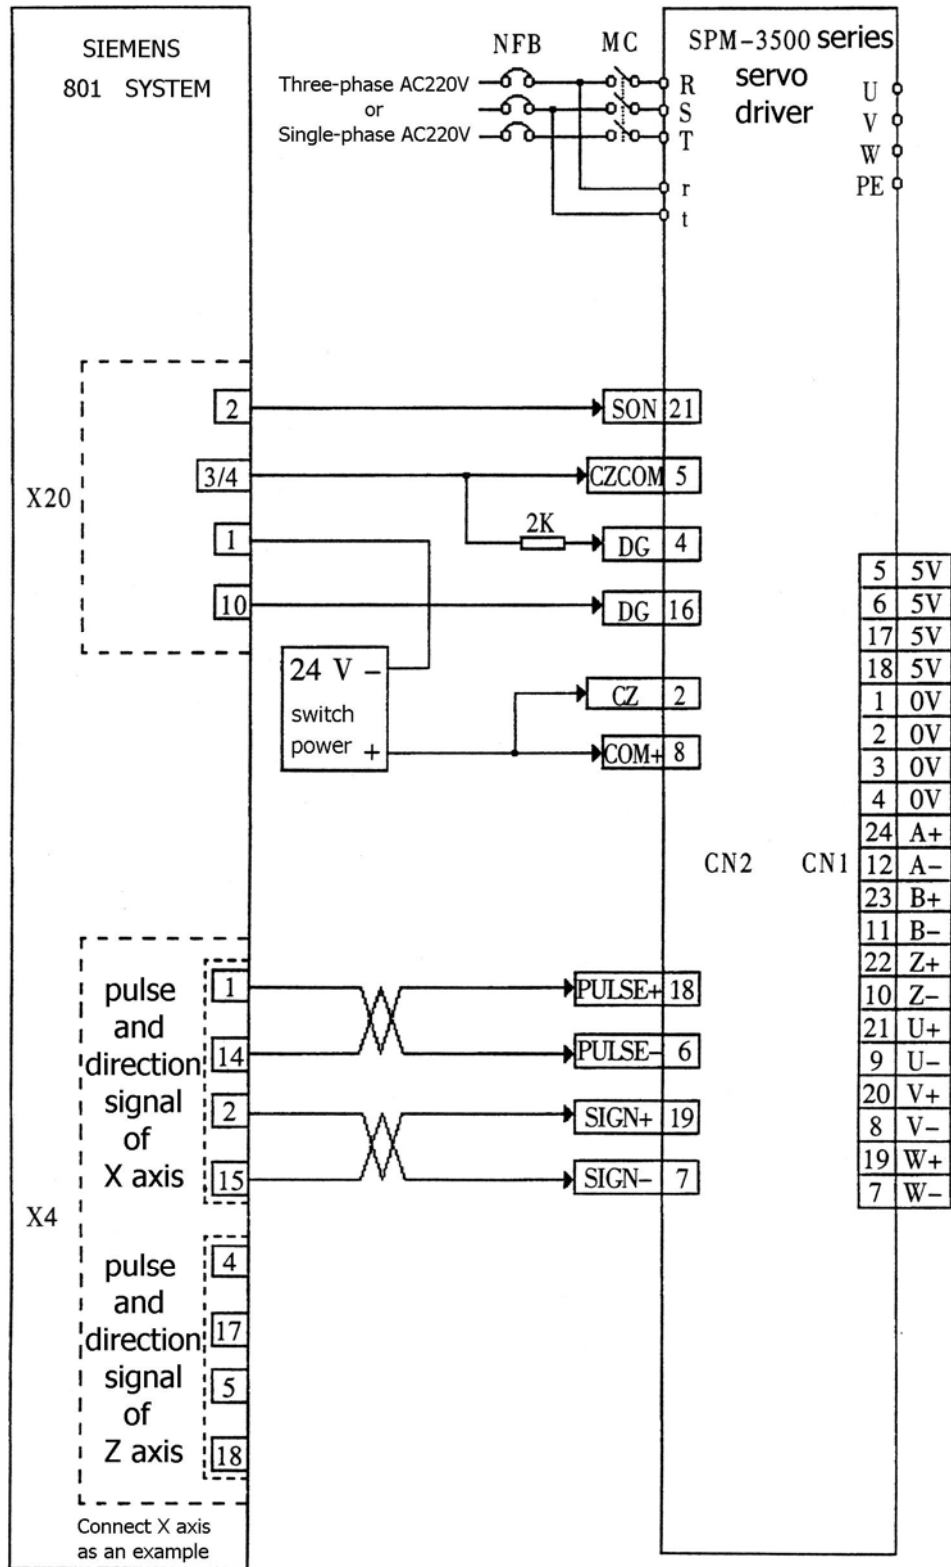

Fig 5.6 Standard wiring for position control mode between the driver and SIEMENS 801 system
- 6) Fig 5.6 shows: The standard wiring for position control mode between the driver and SIEMENS 801 system.